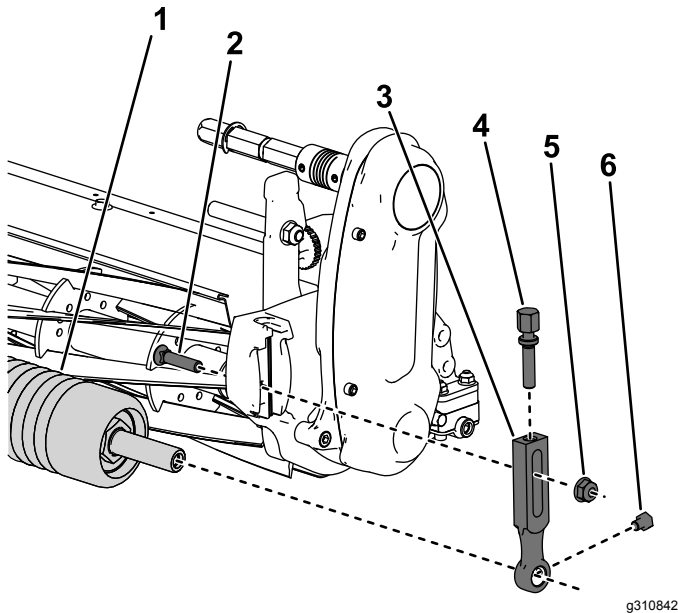

Figure 3
1. Remove the plow bolt, washer, and flange nut securing one of the height-of-cut arms to the cutting unit side plate (Figure 3).